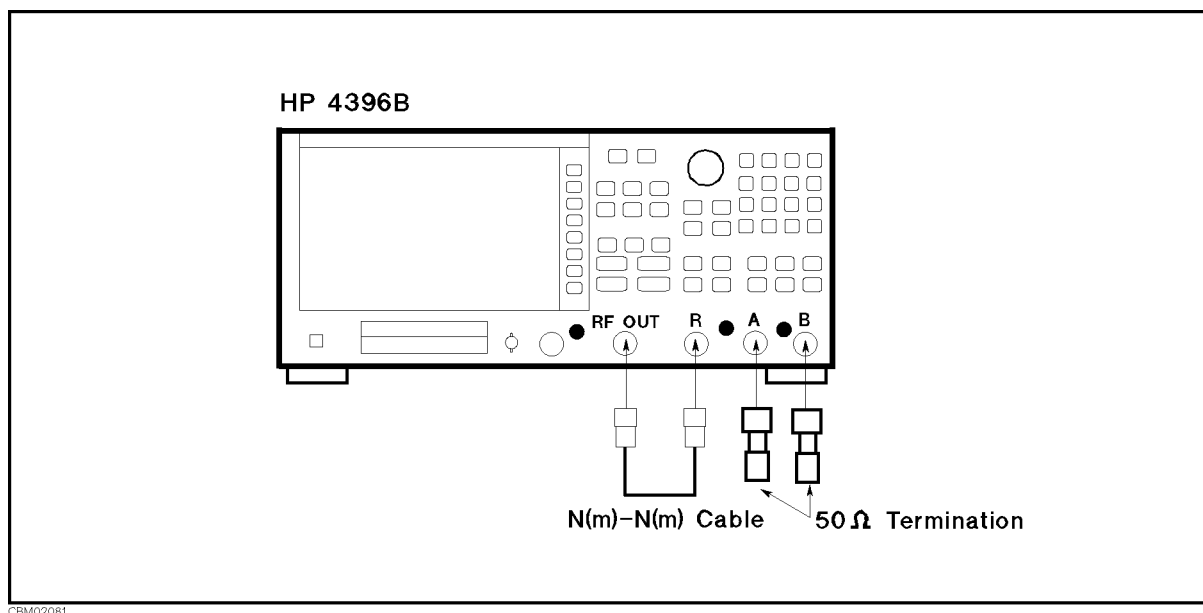

Figure 2-7. Input Crosstalk Test Setup 1
- a. Connect the test equipment as shown in Figure 2-7.